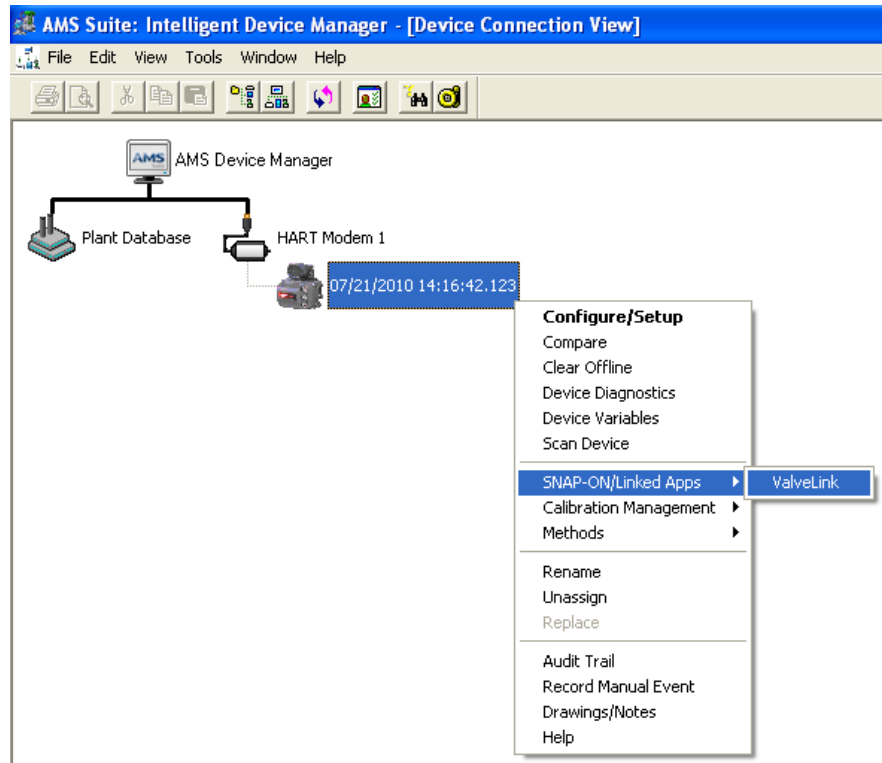

Figure 4-3. Right-Click Communications Device Icon to Open Menu
- Step 5:** When a DVC2000, DVC5000, DVC6200 or DVC6000 icon appears, right-click the instrument icon as shown in figure 4-3 and select SNAP-ON/Linked Apps > ValveLink from the context menu.